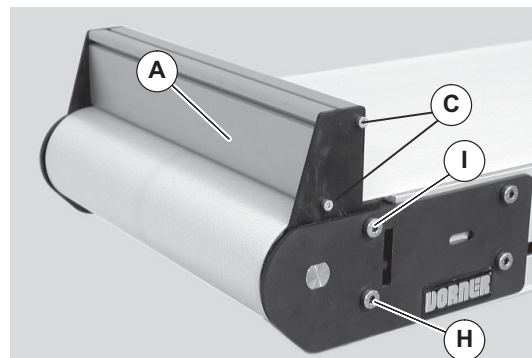

Figure 7
- Place end stop cross piece (Figure 7, item A) on end of conveyor and attach with screws (C) tighten to 50 in-lbs (5.6 N-m).
- Tighten screws (Figure 7, item H and I) to 146 in-lbs (16.5 N-m).